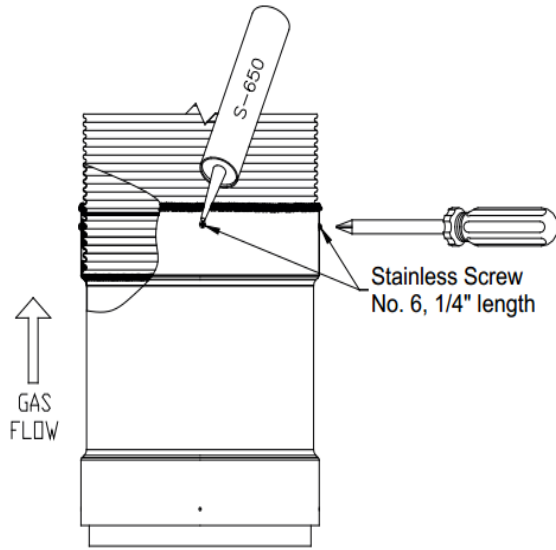

Figure 21 -SecureSeal Flex screws
- 2.5. Add the red S-650 caulking over the screws (**Figure 21**).